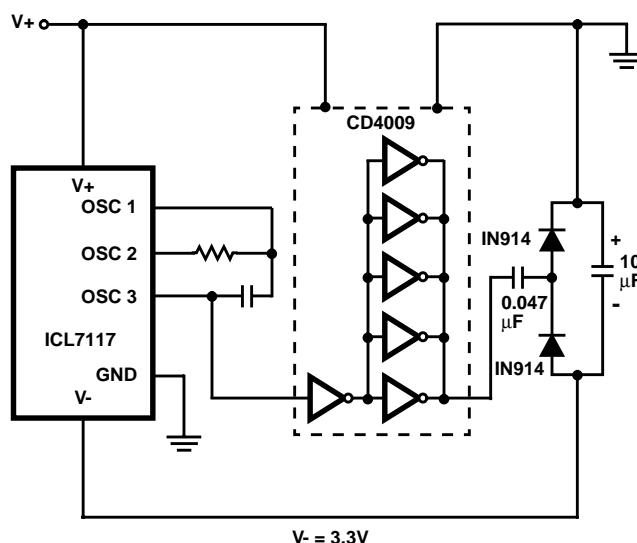

FIGURE 10. GENERATING NEGATIVE SUPPLY FROM +5V
3. The ICL7117 is designed to work from \pm 5V supplies. However, if a negative supply is not available, it can be generated from the clock output with 2 diodes, 2 capacitors, and an inexpensive IC. Figure 10 shows this application. See ICL7660 data sheet for an alternative.